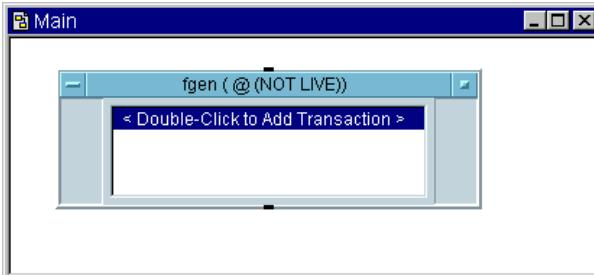

Figure 3-16. A Direct I/O Object
4. To place the object on the screen, make sure that `fgen (@(NOT LIVE))` is still highlighted, and click Create I/O Object \Rightarrow Direct I/O. Figure 3-16 shows the Direct I/O object.